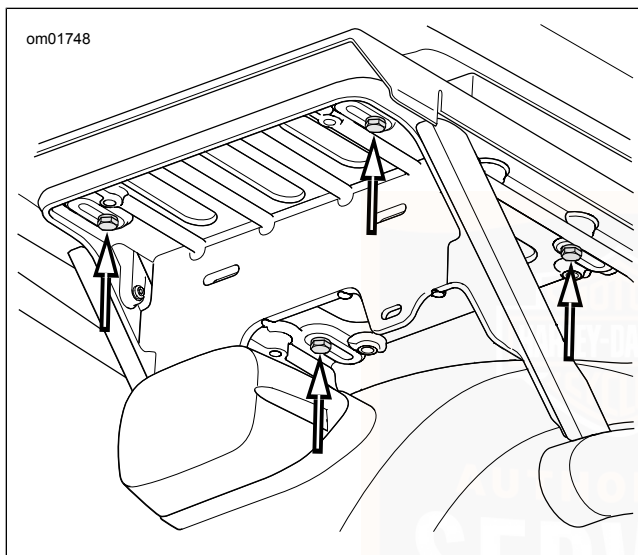

Figure 36. Tour-Pak Bracket Screws (APC Models)
1. See Figure 36. Remove the four screws securing the Tour-Pak bracket to the support.